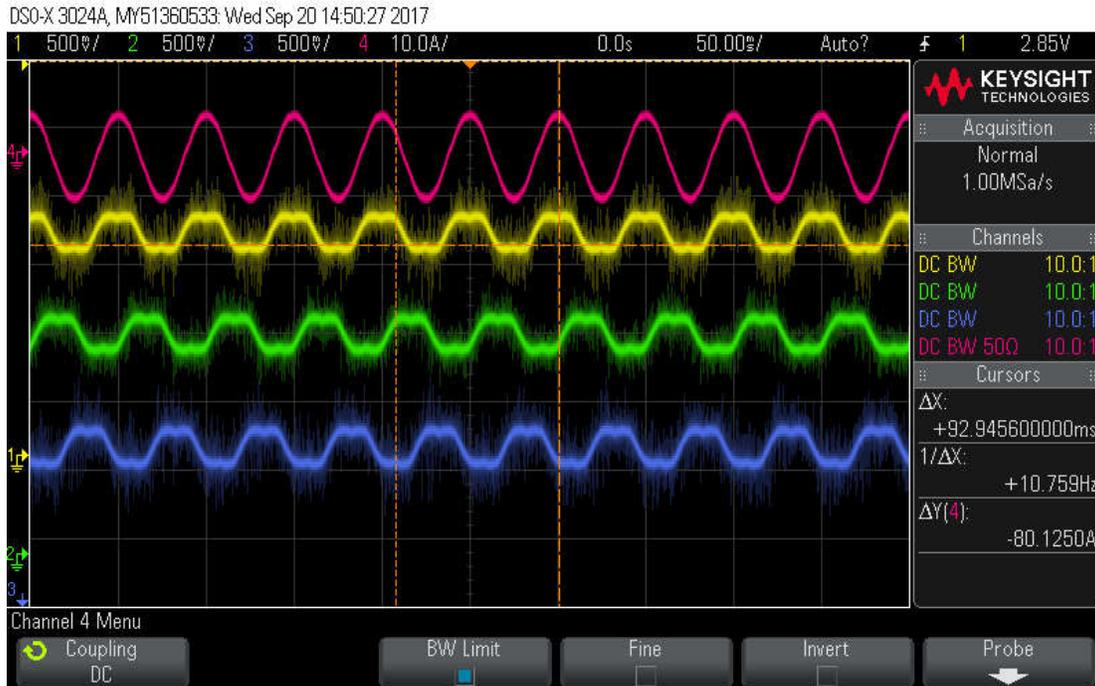

Figure 30: Three-phase voltage sample and measured current via external current probe
Step 2c: Set the correct offset and gain for each PWMDAC channel. Assign the PWMDAC inputs as shown in step 3a above; following, the output waveform is as shown in **Figure 30**.